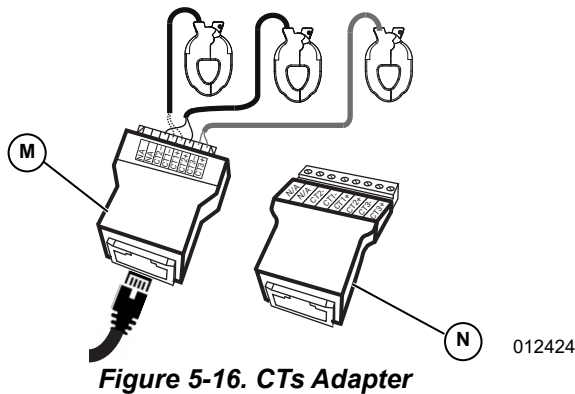

Figure 5-16. CTs Adapter
1. See **Figure 5-16**. Connect CT leads to the CTs Adapter with push terminals (M) or screw terminals (N) according to the label on the breakout adapter.